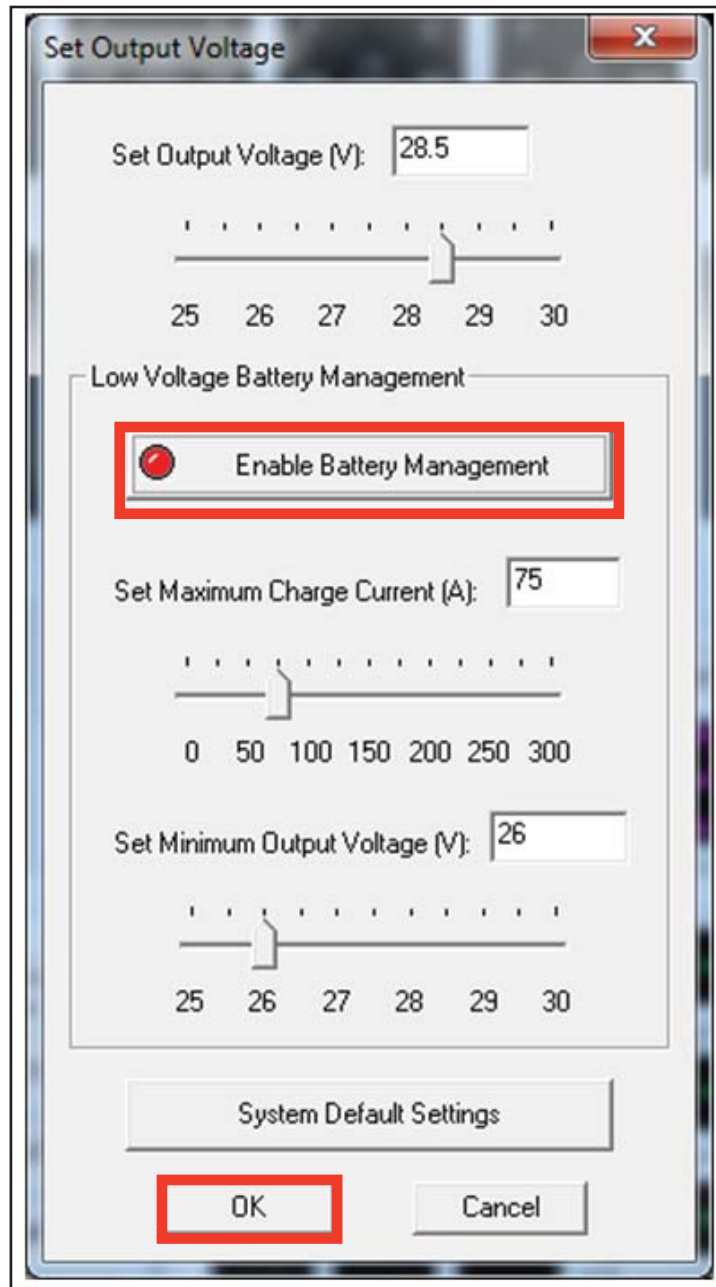

Figure 4 - Enabling Battery Management in Set Output Voltage Tab
1.7. Click on "Enable Battery Management" in "Set Output Voltage" tab to turn it ON and press OK. (see Figure 4).